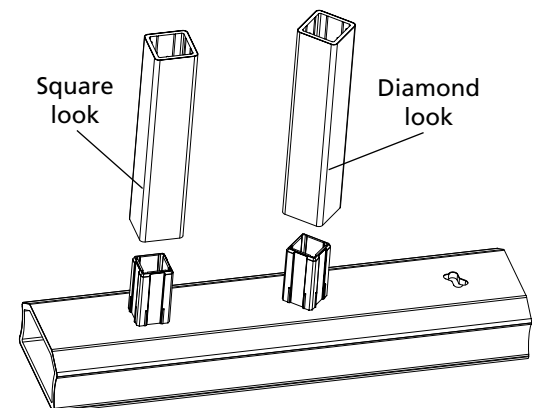
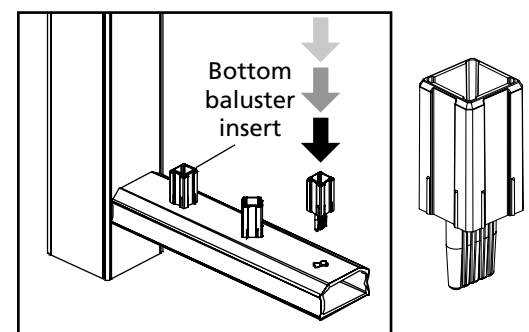

Figure 22
Figure 23
14. Determine the desired baluster design (squared look, diamond look or a mixed pattern of the two) (Fig. 22).
16. Fully engage the bottom baluster insert (Fig. 23) into each baluster slot in the bottom rail. Orient the bottom baluster insert to achieve the desired look (Fig. 22).